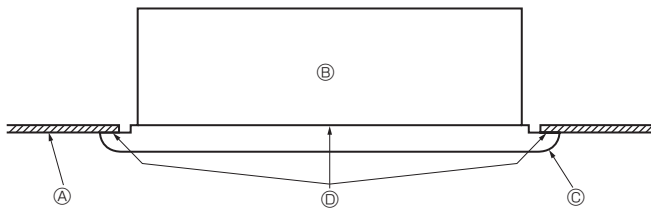

Fig. 5-6
- Next tighten the securing bolts ② and securing screws ③ in the centre three places.
- Finally tighten the securing bolts ② in the four places at left and right.
- At this point, make sure there are no gaps between the indoor unit and the front panel, and between the front panel and the ceiling surface. If there are gaps, the wind may come in and it may cause water to drip (Fig. 5-6).
- \* Tighten the securing bolts ② and securing screws ③ completely.
### 5.4. Checks after installing (Fig. 5-6)